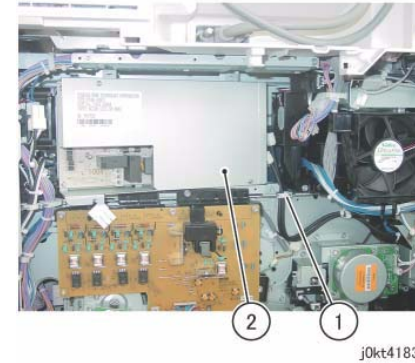

Figure 6 Move the IH Driver PWB
7. Move the IH Driver PWB. (Figure 6)